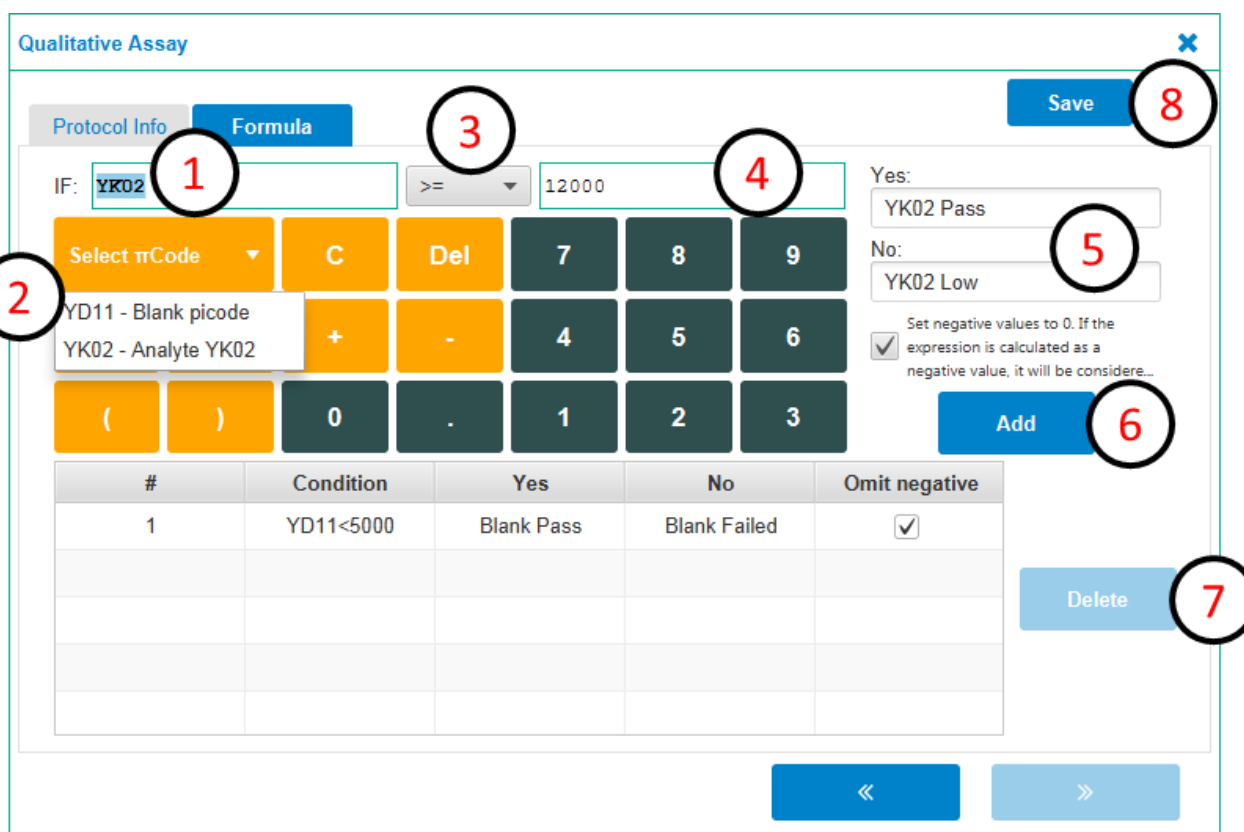

Fig. 41. Formula tab
- Step 1. Click into the “Expression 1” field to activate (Fig. 41).